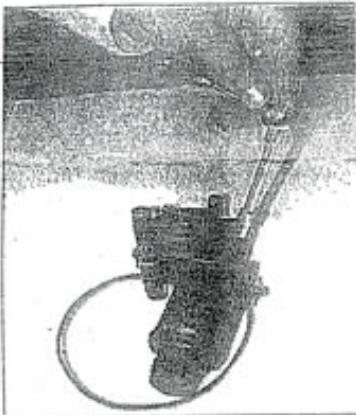

FIG. 1
2. Remove the gear housing cap by removing the three gear housing screws. (Fig. 1)